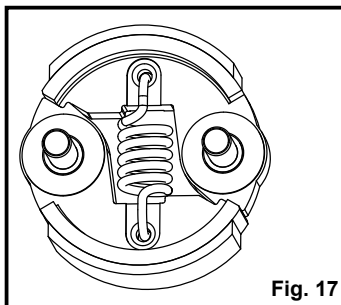

Fig. 17
- Turn the clutch upside down and slide the flat washers onto the bolts. Apply the thread-locking glue for 3-5 screw threads and then re-install the clutch (Fig. 17 & 18).